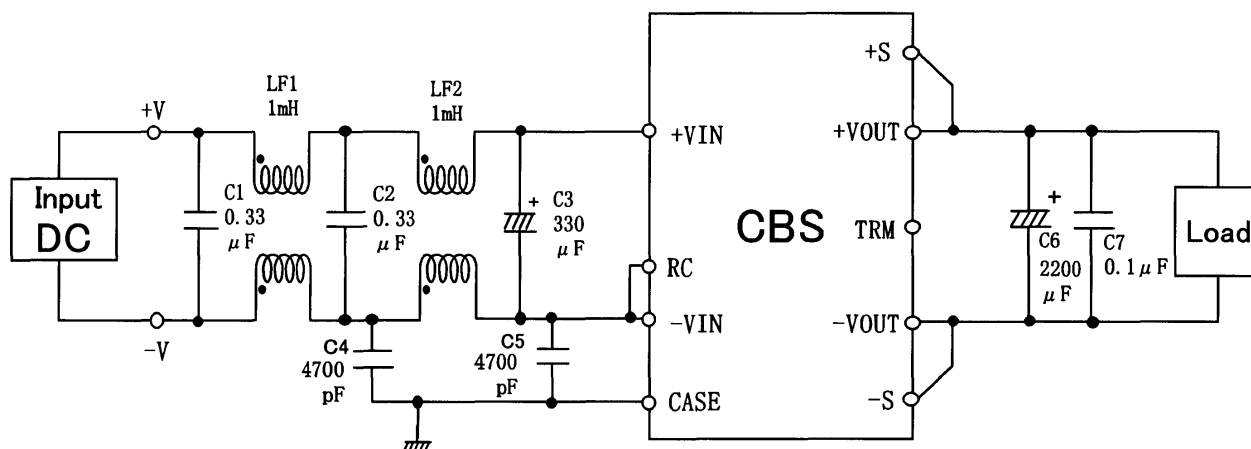

Fig.1 Testing circuitry
(1) Input : DC24V
(2) Output : Rated output
(3) Ambient temp. : 25±10°C
(4) Testing circuitry : Fig.1